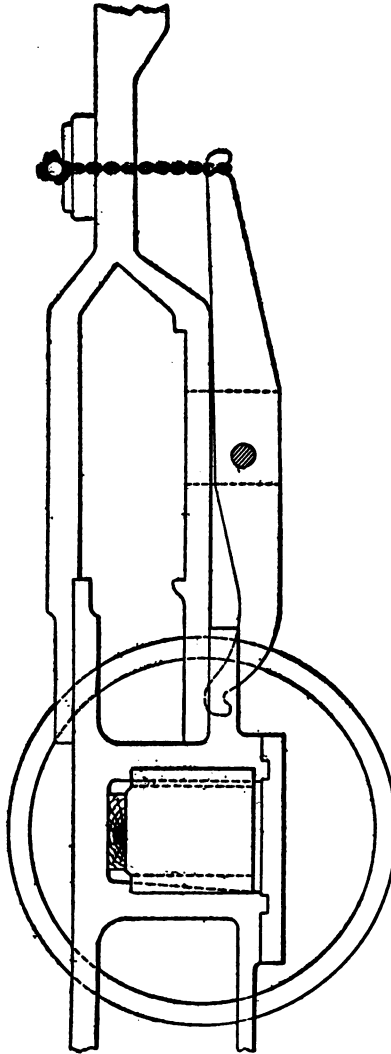

FIG. 40.—METHOD OF CHAINING TRUCK EQUALIZER ON MOGUL AND CONSOLIDATION
A. The front end of the engine should be jacked up and the truck removed. This is facilitated by taking down the pilot or front step. While the front end is thus raised, the forward spring stirrups should be removed and blocking placed beneath the frames on top of the oil boxes, as shown in Fig. 40. This will keep the front end of the engine up and at the same time put the load previously divided between the truck and the front driving wheel entirely on the latter. It may also be found to be necessary to remove the springs to prevent them from shaking loose.
It will depend somewhat on the construction of the engine as to what should be done in the blocking of the equalizer. If this is so proportioned that the rear end will strike the boiler before the front end will come down to the rails it will need no blocking. If this will not occur it may be blocked down at the back, or, better still, chained up at the front by a chain passing through the center pin bearing, as shown in Fig. 40.